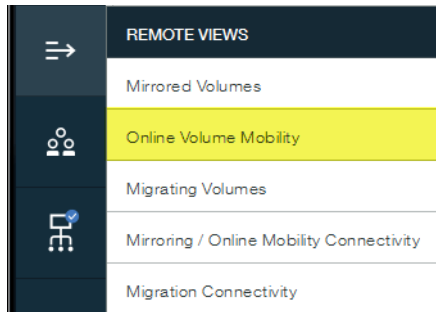

Figure 3-12 Remote Views - Online Volume Mobility
- By opening a new tab and selecting the Online Volume Mobility menu option, as shown in Figure 3-12, the source and destination volumes can be seen for the newly created migration relationship, as shown in Figure 3-13.